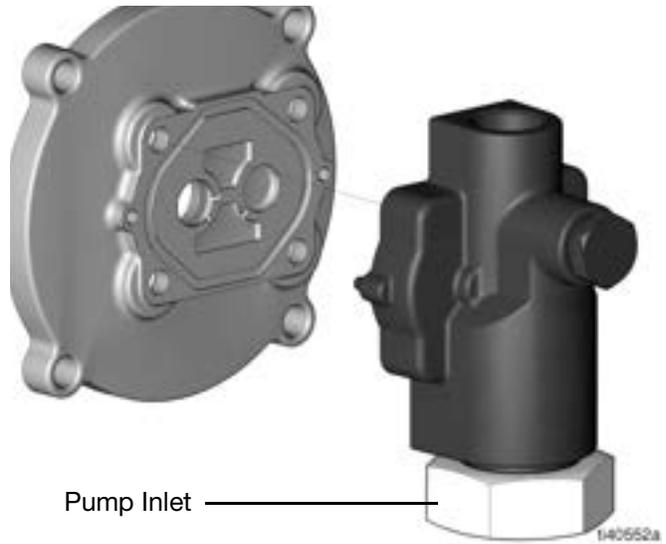

**FIG. 11**
2. Put the o-ring (5) into the groove on the adapter plate (2) cover (FIG. 11).